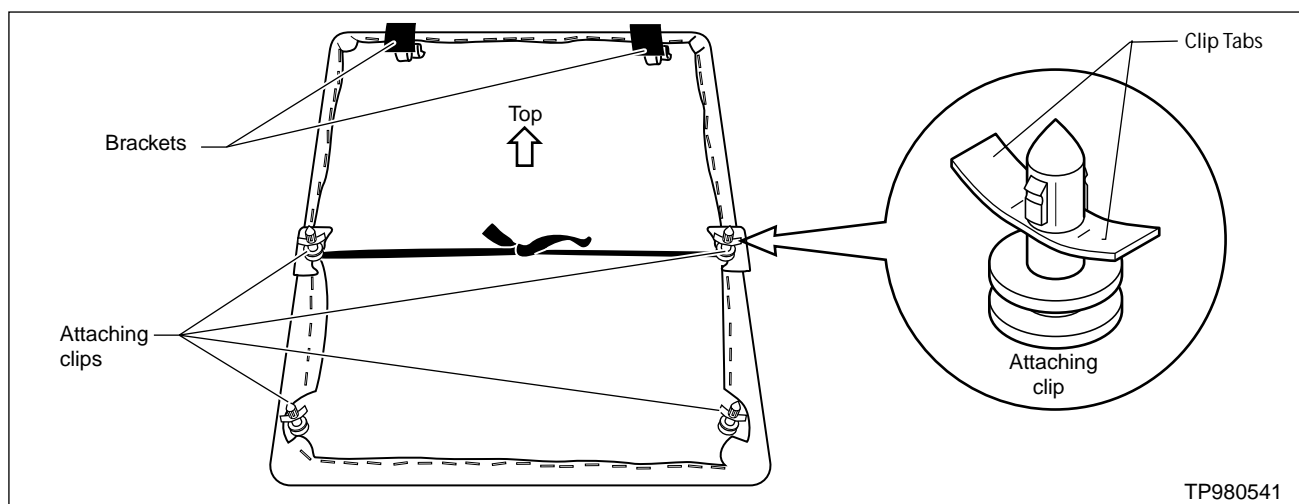

Figure 1 (Seatback board removed)
- The seatback board is held in place by two brackets at the top and four attaching clips (two in the middle and two at the bottom) as shown in figure 1.
7. Confirm all attaching clips are correctly aligned in seatback board (see figure 1).